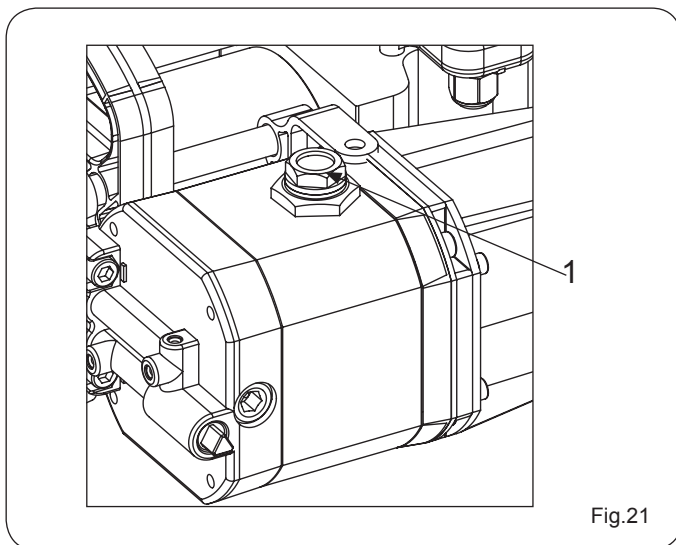

Fig.21
- 10) Restore the oil level until it is just under the cap, using the oil supplied (Fig. 21 ref.1).